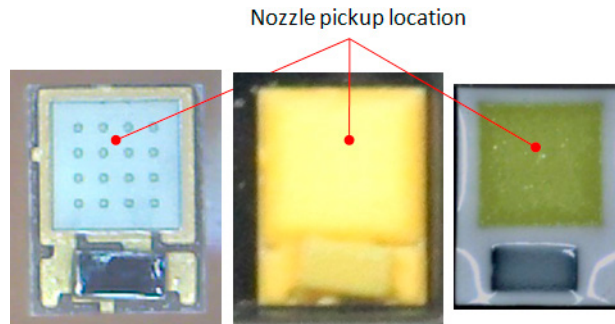

Figure 10. Nozzle pick-up location for LUXEON Z (InGaN) emitters.
1. For LUXEON Z InGaN emitters, the tip of the nozzle should be positioned on the flat surface above the LED chip area; the area around the TVS should be avoided because of the height differences (see Figure 10). There is no such constraint on the nozzle position for LUXEON Z AlInGaP emitters.